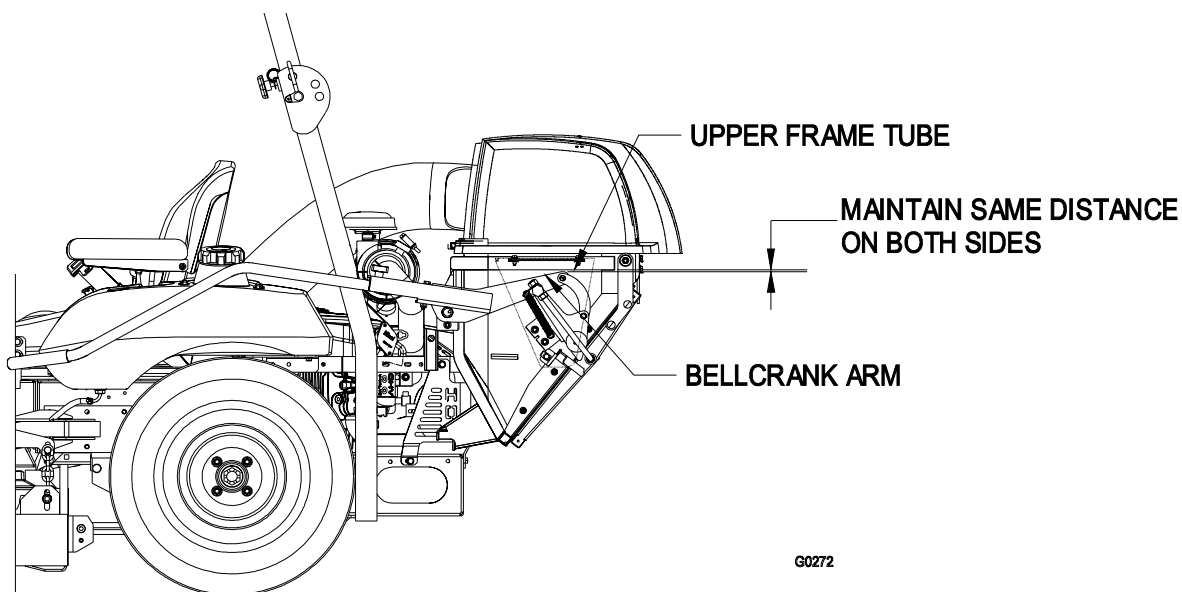

FIGURE 6
- 4.2.1 **Arm Position:** The left and right bellcrank arms control the timing of the left and right door opening mechanisms. The ends of these arms must be positioned equally from the upper frame tube for proper actuation. Check this distance with the door closed. If adjustment is necessary, loosen the allen head clamping screw on the hub of the right hand arm. Position the arms so that their ends are the same distance from the upper frame tube. Tighten the clamping bolt to hold them in this position. See Figure 6.